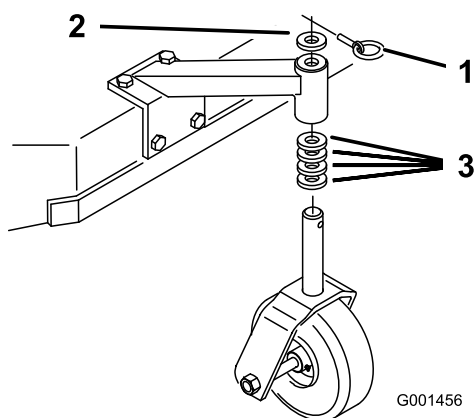

Figure 21
- Using the Height-of-Cut Chart, adjust the caster spacers to match with the axle hole selected (Figure 21).
- Remove the latch pin, slide the caster from the support, and change the spacers (Figure 21).
- Install the caster in the support and insert the latch pin (Figure 21).